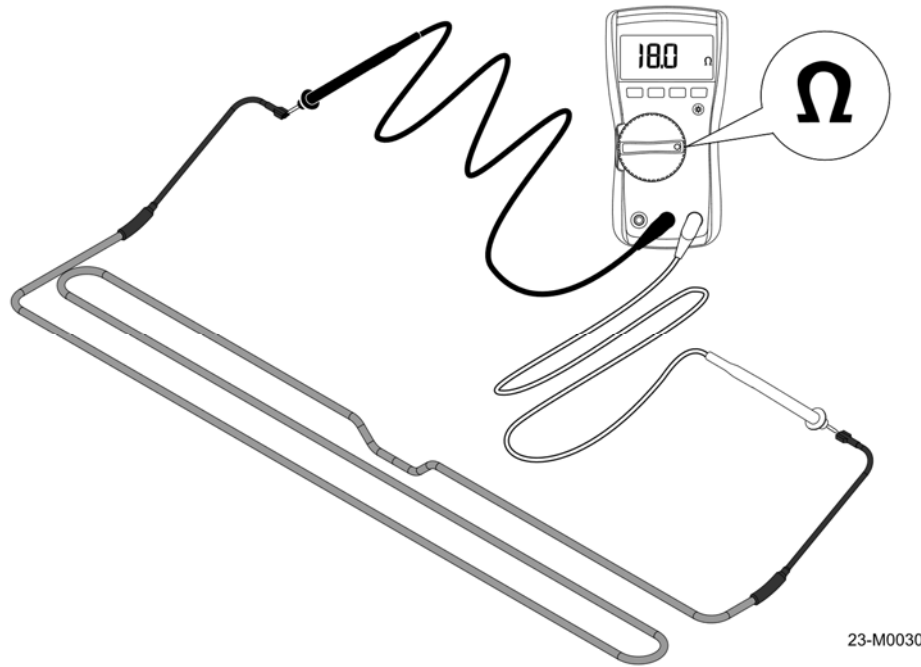

Figure 5-9
2. Locate the spade terminals on each end of the coil heater. Unplug the connectors and use a multimeter set to Ohms to measure the resistance of the coil heater, refer to Figure 5-9. Resistance must be checked at 70°F for the best accuracy, with a tolerance range of +/- 10%; refer to the table for the size and resistance value of the heater. If the reading is not within the specified range the coil heater must be replaced.